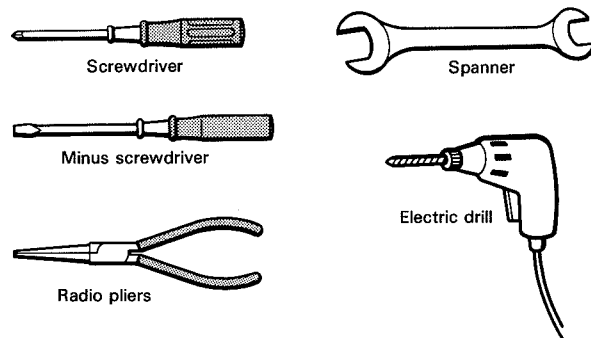

Fig. 1
- First, be sure you have the tools you will need. (Fig. 1)